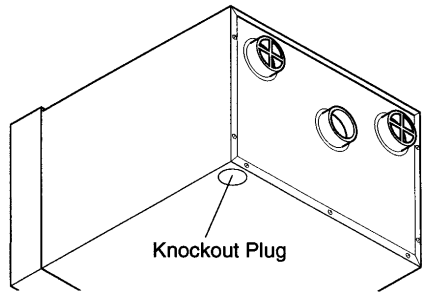

Figure 13 - Location of Knockout Plug
- 8. Locate knockout plug in furnace cabinet. Knockout plug is in lower left rear of furnace cabinet (as viewed from rear, see Figure 13). Remove knockout plug.